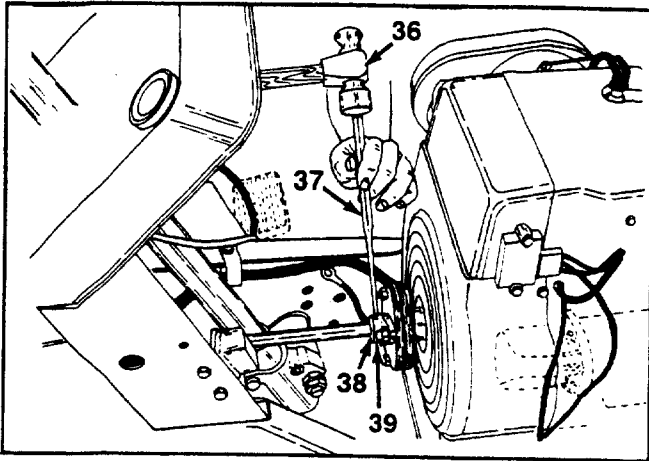

FIGURE 19.
21. With a drift pin and hammer, remove the roll pin located at the coupling of drive shaft and rear of engine. See figure 19.